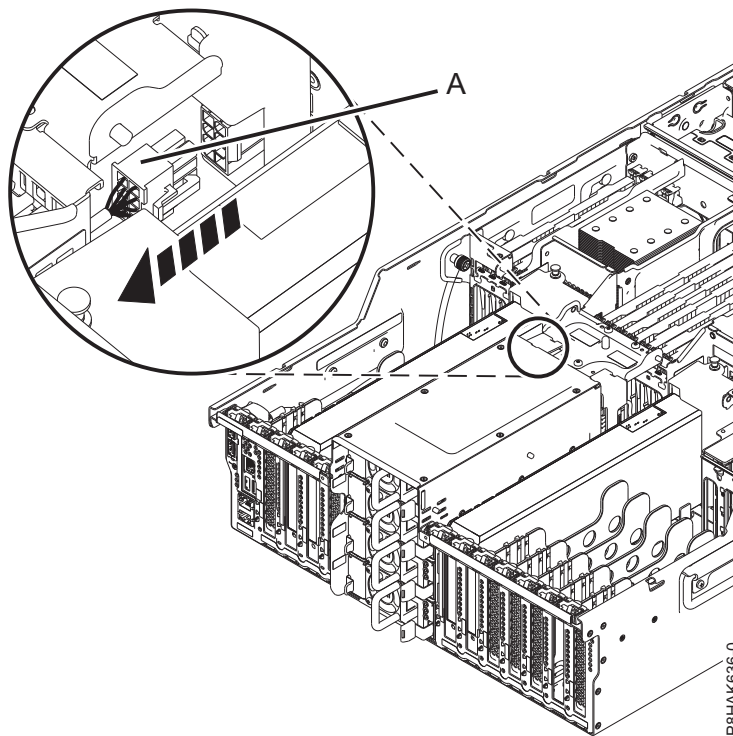

Figure 34. Disconnecting the power cords for the GPU adapter PCIe adapter in the 8247-42L system
3. If you are removing the PCIe gen3 x16 GPU adapter (FC EC47 or EC4B), disconnect the auxiliary power cable (A) from its connectors on the system backplane, as shown in Figure 34.